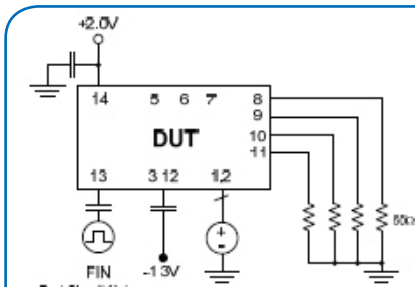

Figure 2. Test Circuit
2. Parameters are tested with production test circuit below (Fig 2).